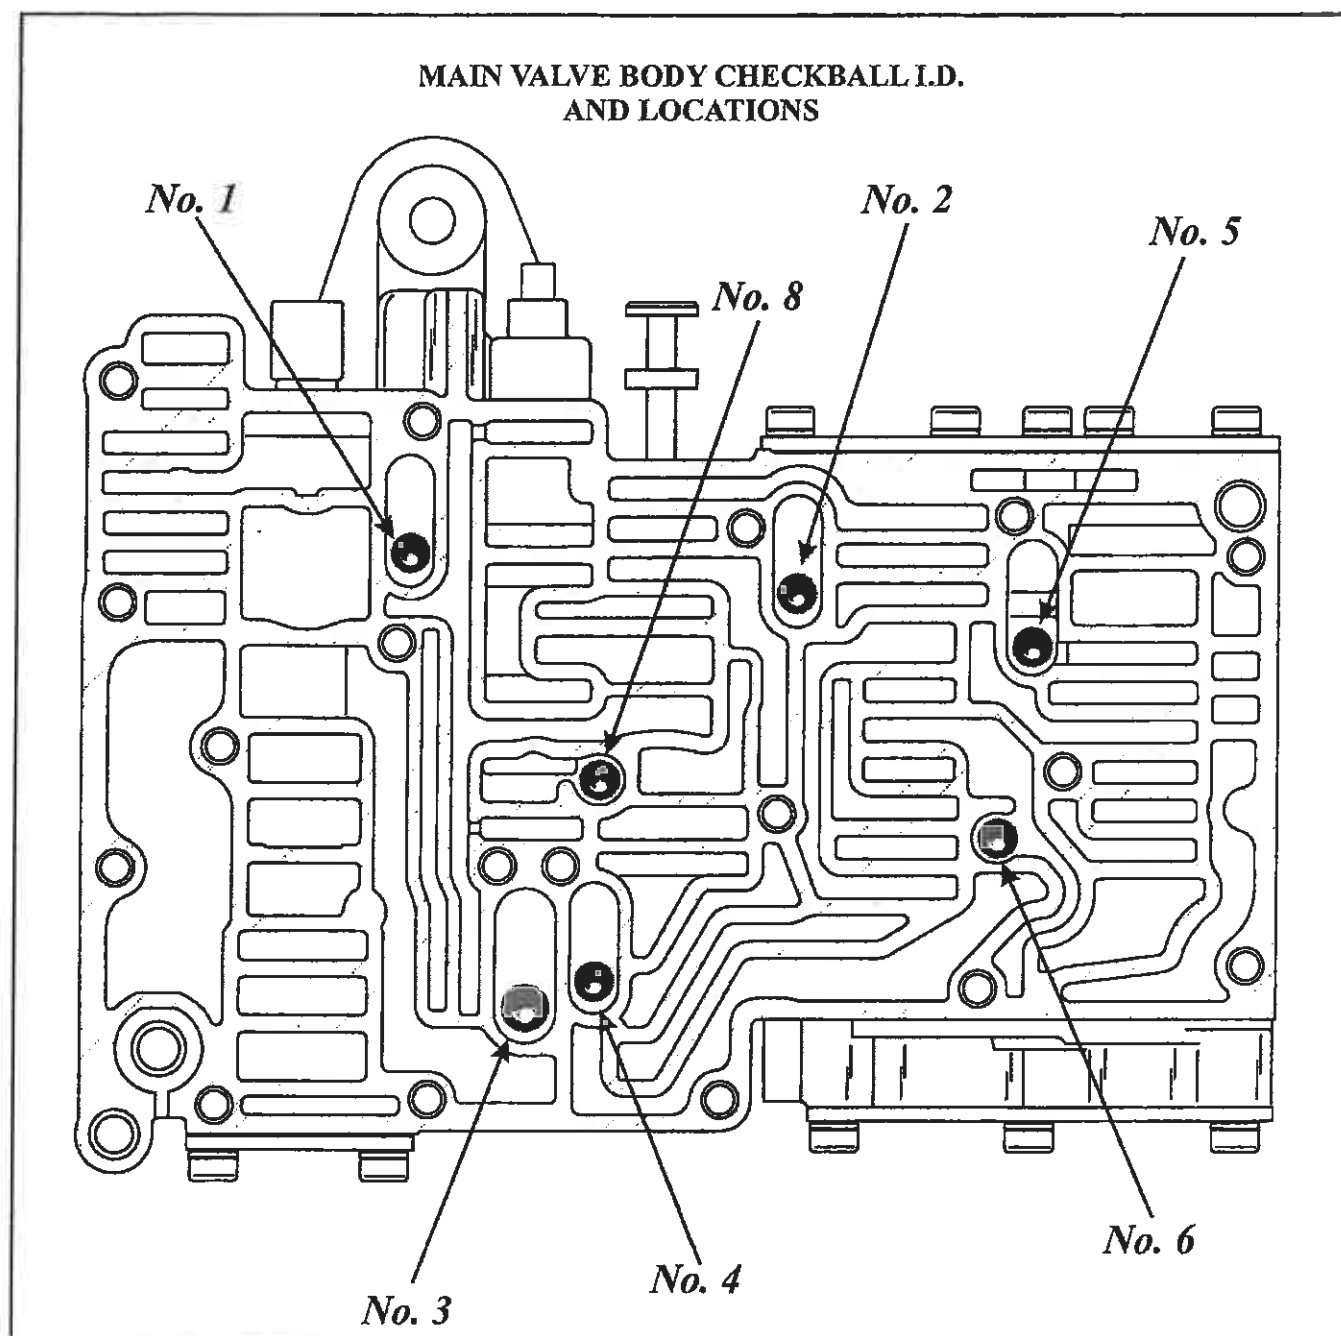

Figure 1
- CAUSE:** One such cause may be a cross leak between spacer plate and channel plate near the # 3 check ball seat area (See Figures 1 & 2). The cross leak may be the result of an incorrectly aligned spacer plate to channel plate. This misalignment may allow minimal 3rd gear oil pressure to cross over and intrude into the low/reverse band circuit after a 2-3 shift has occurred. This minimal pressure is enough to make the band drag on the low drum while driving in third and forth gear causing the premature failure of the band.